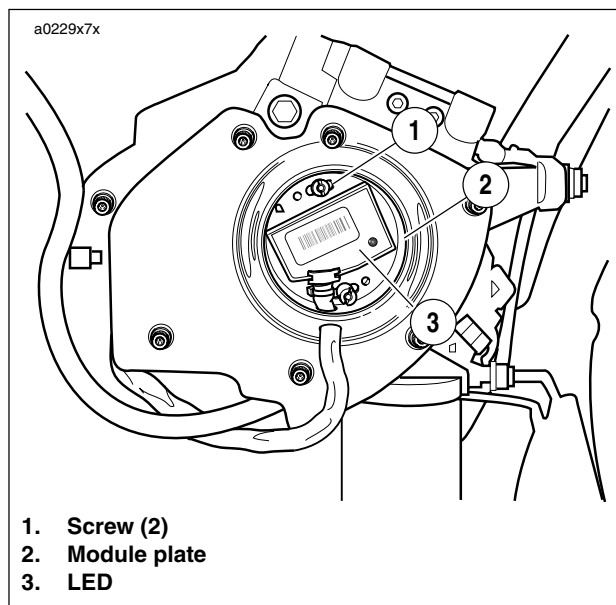

Figure 7-23. Static Ignition Timing (Typical)
9. See Figure 7-23. Loosen two screws and slowly rotate module plate until red LED illuminates. Tighten module plate screws to 10-20 **in-lbs** (1-2 Nm) when complete.